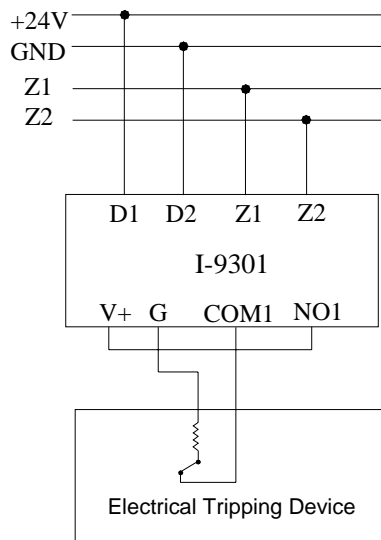

Fig. 4
- ✧ The module can directly drive a smoke exhauster or fire valve (electrical tripping device). System composition is shown in Fig. 4.